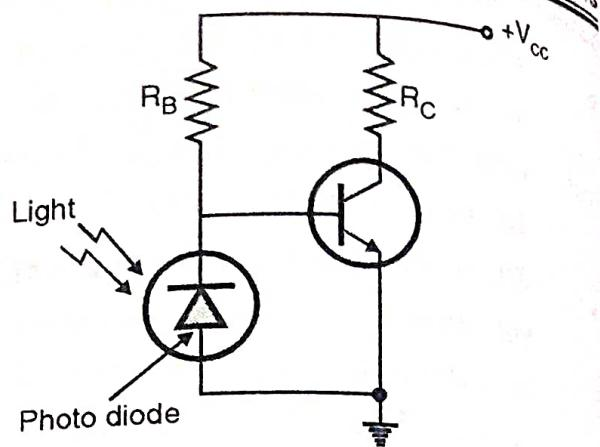

Fig. 1.20.6 : Switching circuit using photodiode
- Fig. 1.20.6 shows a switching circuit using photodiode.